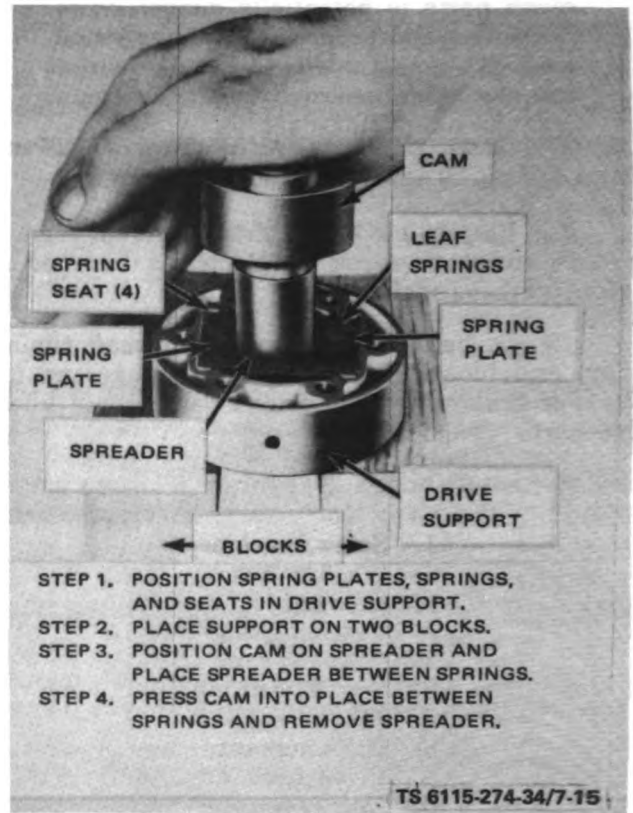

Figure 7-15. Blower Drive Support, Reassembly
(1) Reassemble the blower drive support (fig. 7-15).
(2) Follow the steps shown on the figure to simplify the reassembly.
(3) Use special tool J-1471 to aid in spreading the springs. Refer to table 2-1 for tool list.